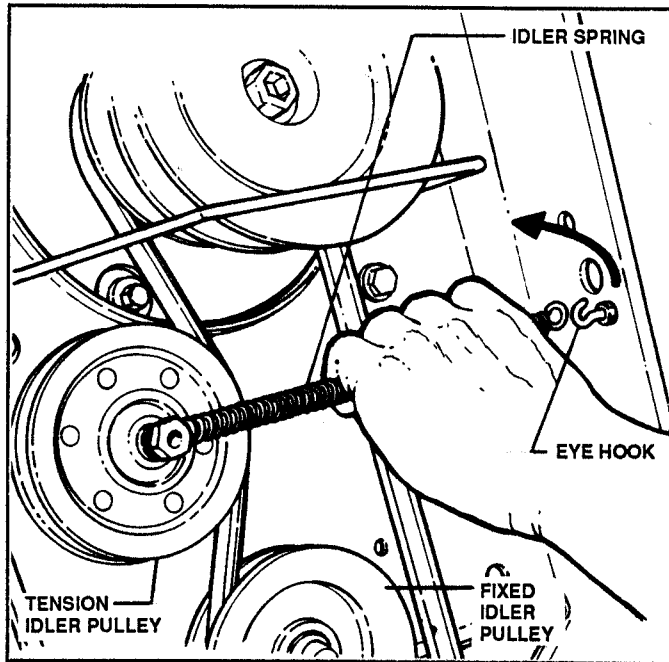

FIGURE 35
6. Disconnect IDLER SPRING. See Figure 35.